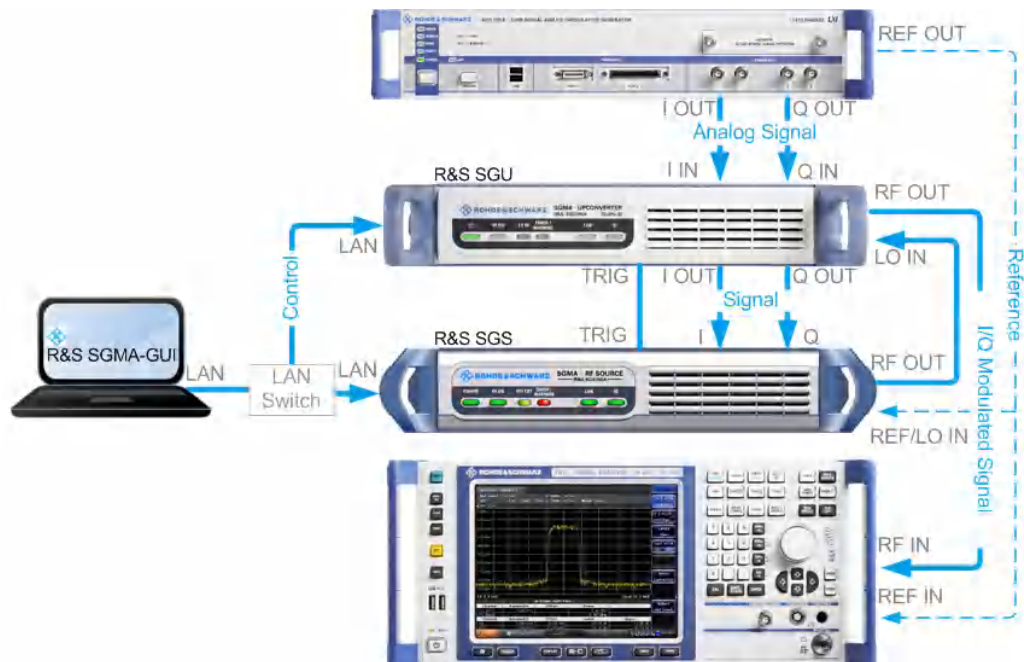

Figure 11-1: Example of the test setup
The Figure 11-1 shows an example of the test setup.
1. Connect the test equipment as shown on Figure 11-1: